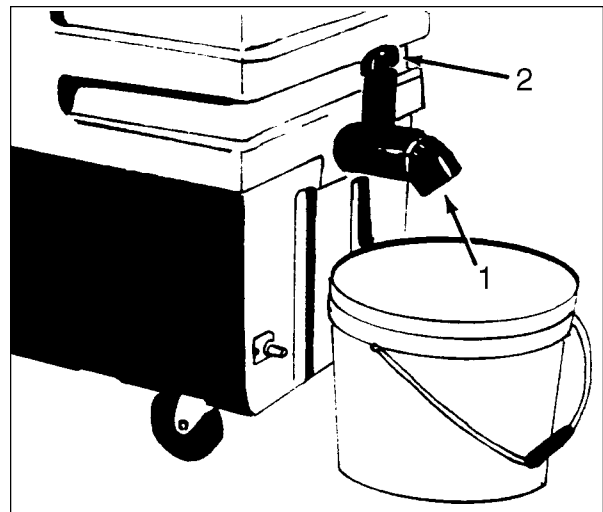

Figure 7
4. Put a bucket under the drain valve (1).
5. Pull the drain valve handle (2). See figure 7.